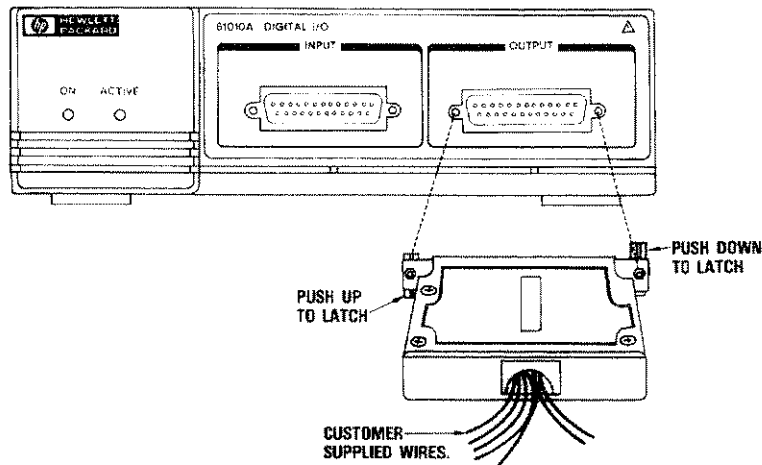
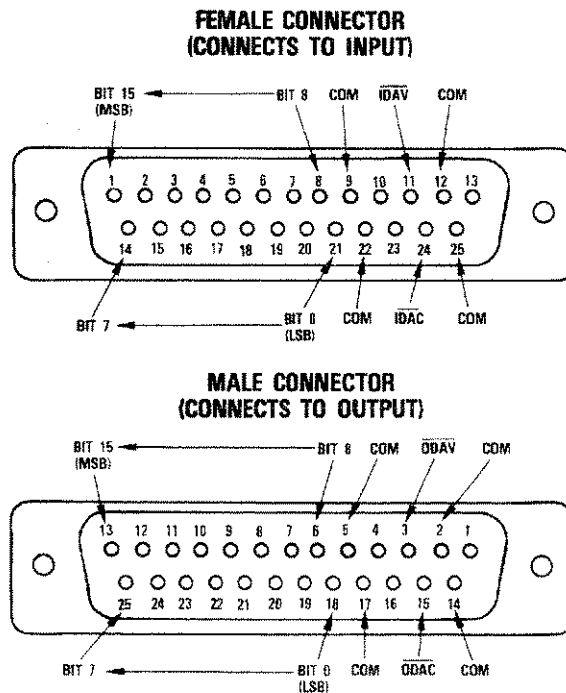

Figure 4-1. Application Connections
Figure 4-3. Digital I/O Connector Pin Assignments (viewed from the solder pin side of the connector)
wires, solder, and tools, which you must provide. Figure 4-1 shows how an assembled connector is installed on the front of the Digital I/O.
1. Solder the wires or cable (1) from your application to the solder pins on the connector (2). Figure 4-3 shows the location of the data bits and control signals on each connector.
2. Place the connector inside the cable clamp (3) and route the wires out of the opening at the back of the cable clamp.
3. Insert the proper strain relief (4) over the wires, and insert the solid plug (5) in the opening on the side of the cable clamp.
4. Close the cable clamp and tighten the three cover screws (6).
5. Attach the slide latches (7) to the connector using the hardware (8) that is supplied. The lip on the side of the slide latch must overlap the edge of the connector. Do not overtighten the screws.
6. Move the slide latches to the open position and insert your connectors in the mating sockets on the front of your instrument (see Figure 4-1).